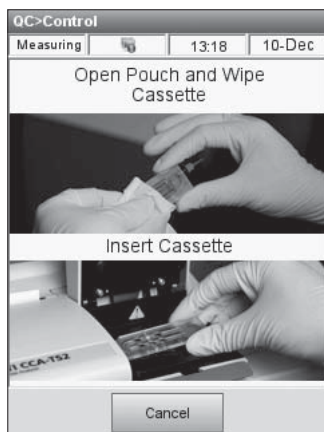

Fig. 4-17 Insert Cassette
7. Insert the cassette into the chamber. Press down to ensure that the cassette is seated properly (Fig. 4-17).